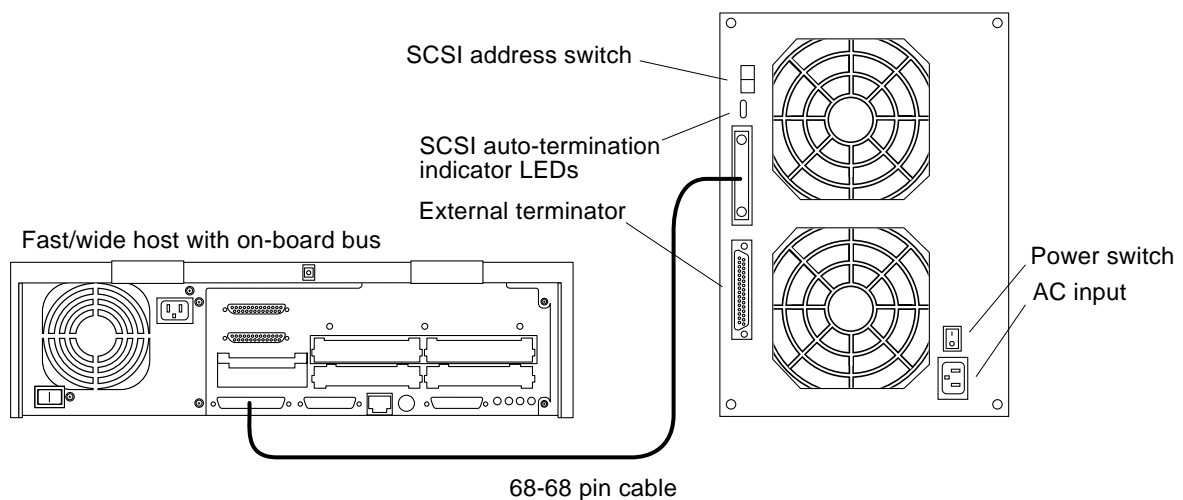

FIGURE B-3 Fast/wide Host in a Direct Connection with a SPARCstorage MultiPack 2
1. Connect one end of the SCSI cables to the SCSI port on the back of the storage enclosure (FIGURE B-3).